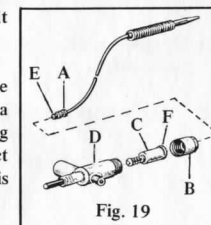

Fig. 19
4. If the safety valve magnet is defective, it cannot be repaired but must be replaced. When the safety valve magnet needs replacement, proceed as follows: (See Fig. 19.)
- a. Unscrew the connection plug (A) on the thermocouple from the housing nut (B).
- b. Unscrew the housing nut (B) and remove the defective safety valve magnet (C) from the housing (D).
- c. Fit a new magnet valve and ensure that it is properly inserted in the housing (D).
- d. Fit the housing nut (B) and the connection plug (A) and check that a good contact between the contact plug (E) on the thermocouple and the contact (F) on the safety valve magnet is obtained.